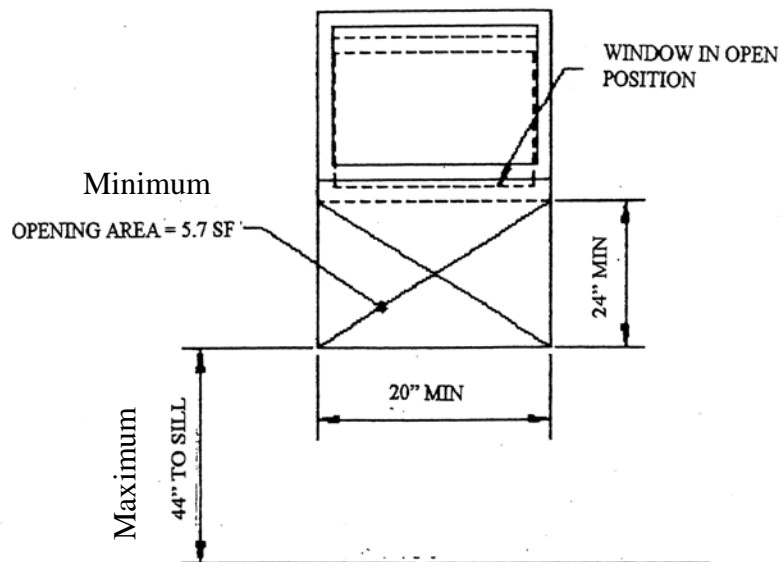

FIGURE 1: BEDROOM EMERGENCY EGRESS DIMENSIONS
- See Figure 1 for more detail.
These bedroom emergency egress requirements are for informational purposes only. Every bedroom shall have at least one openable window or exterior door approved for emergency egress or rescue. The units must be operable from the inside to a full clear opening without the use of a key or tool. Where windows are provided as a means of egress or rescue, they shall have a sill height of not more than 44 inches, a minimum net clear opening of 5.7 square feet, if floor level is below grade, and a minimum net clear opening height of 24 inches and a minimum net clear opening width of 20 inches. See FIGURE 1.